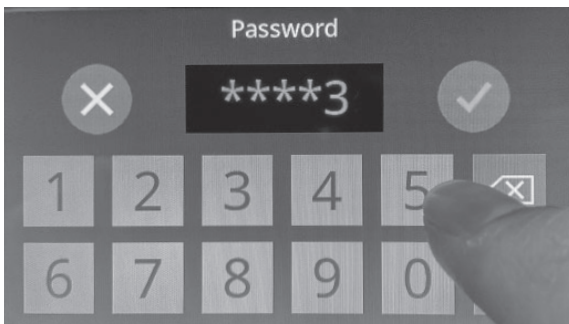

Figure 22
2. Enter the password by touching the numbers on the password screen. The password is: 4-5-8-7-5-6. This password is pre-set at the factory and is not changeable. (Figure 22)